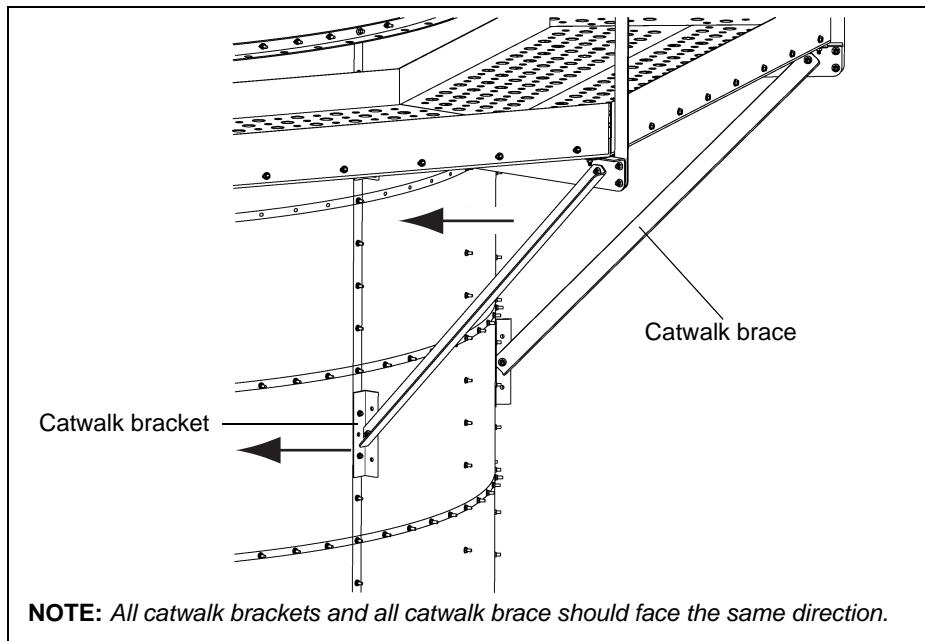

Figure 8U
8. Attach catwalk brace to dryer wall using the previously installed catwalk brackets. Catwalk brace attach to inside of bracket. (See Figure 8U.) Leave loose.
Lower arm of catwalk brace connects to middle hole of bracket and upper catwalk brace arm connects to middle hole of bracket. (See Figure 8U.)
In Figure 8U, the catwalk brackets all face ←. The catwalk brace attach to the inside of the bracket and the catwalk brace all face ←.